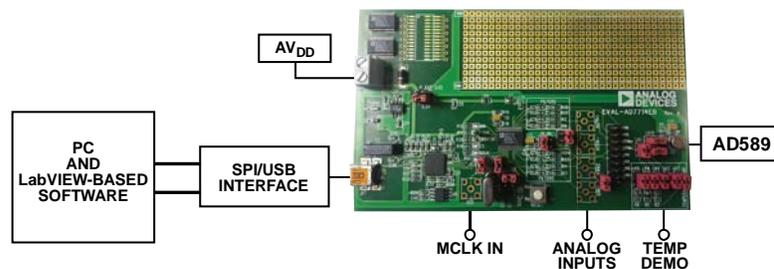
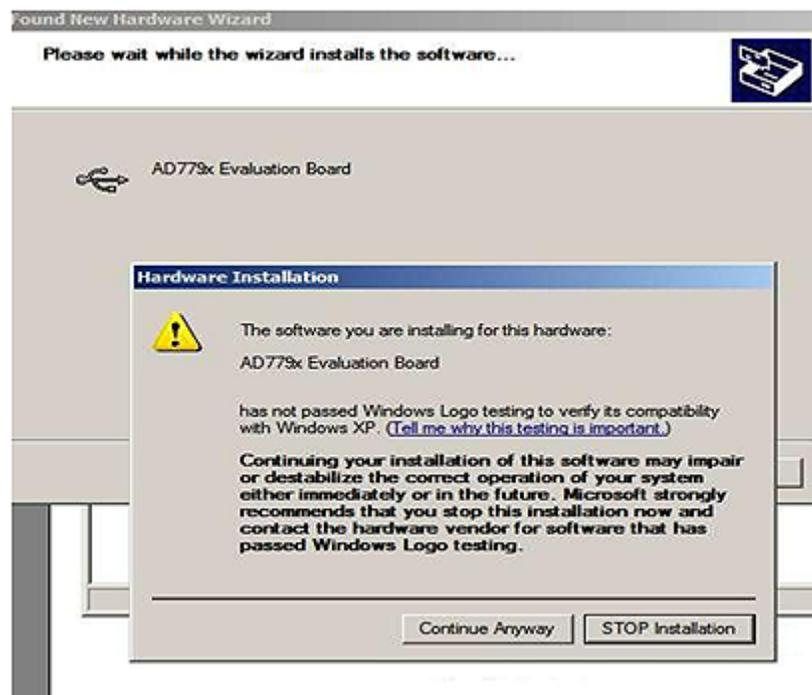

Figure 1.
Figure 2. Hardware Installation Window
2. After the **AD7714-3** evaluation board software has been installed, connect the board to the PC via J1 on the **AD7714-3** evaluation board and via the USB port on the PC using the supplied USB connector cable (see Figure 1). The PC automatically finds the new USB device and identifies it as the **AD779x Evaluation Board** (see Figure 2).
3. Follow the on-screen instructions that appear. During the installation process if the **Hardware Installation Wizard** appears as shown in Figure 2, select **Continue Anyway** to successfully complete the installation of the **AD7714-3** evaluation board.